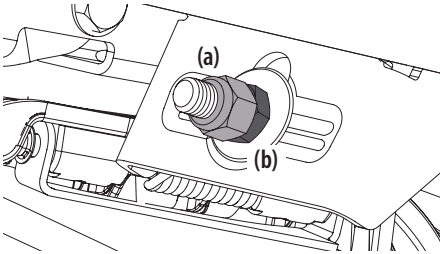

Figure 38
5. To **raise** the front of the deck, remove the end cap, loosen the outer jam nut (a) then tighten (thread inward) the inner nut (b) against the front hanger bracket. See Figure 38. When proper adjustment is achieved, re-tighten the outer jam nut (a) and replace the end cap.
6. To **lower** the front of the deck, remove the end cap, loosen the outer jam nut (a) then loosen (thread outward) the inner nut (b), away from the front hanger bracket. See Figure 38. When proper adjustment is achieved, re-tighten the outer jam nut (a) to 57 ft-lbs. (77 N-m) and replace the end cap.